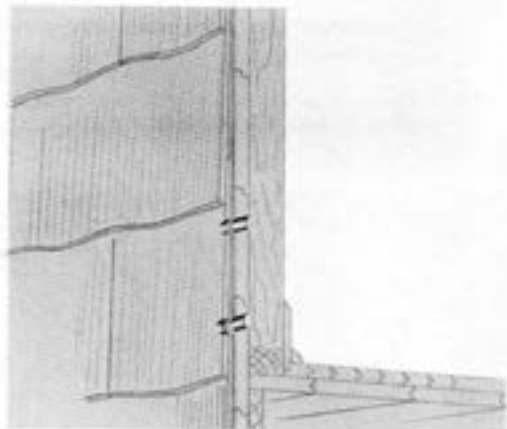

Fig. 3—Entrance Through Composition
- (d) Locate hole as shown in Fig. 3 so as to avoid drilling through two shingles.